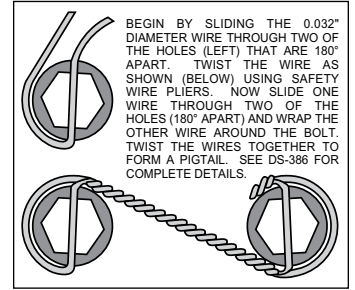

Figure 3. Safety Wire Diagram
- Press the dust cap (18) into the hub (6). **NOTE: Do not hammer center of cap. Install using outer flange only.**
- Orient the rotor (10) and the hat (11) as shown in Figure 1 and Photo 9. Attach rotor to hat using bolts (12) and washers (13). Using an alternating sequence, apply red *Loctite*® 271 to the threads, and torque to 155 **in-lbs**. For an added measure of security, the bolts may be safety wired using standard 0.032 inch diameter stainless steel safety wire as shown in Figure 3. Refer to Wilwood's data sheet DS-386 (available at [www.wilwood.com/Pdf/DataSheets/ds386.pdf](http://www.wilwood.com/Pdf/DataSheets/ds386.pdf)) for complete safety wire installation instructions.